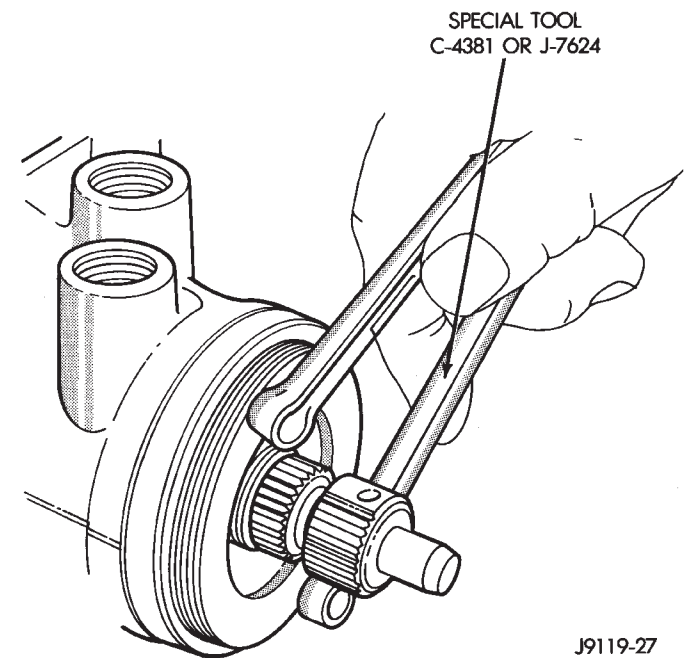

Fig. 18 Remove/Install Adjustment Plug
- (1) Remove adjuster plug lock nut from housing.
(2) Remove adjuster plug from housing with Spanner Wrench C-4381 (J7624) (Fig. 18).